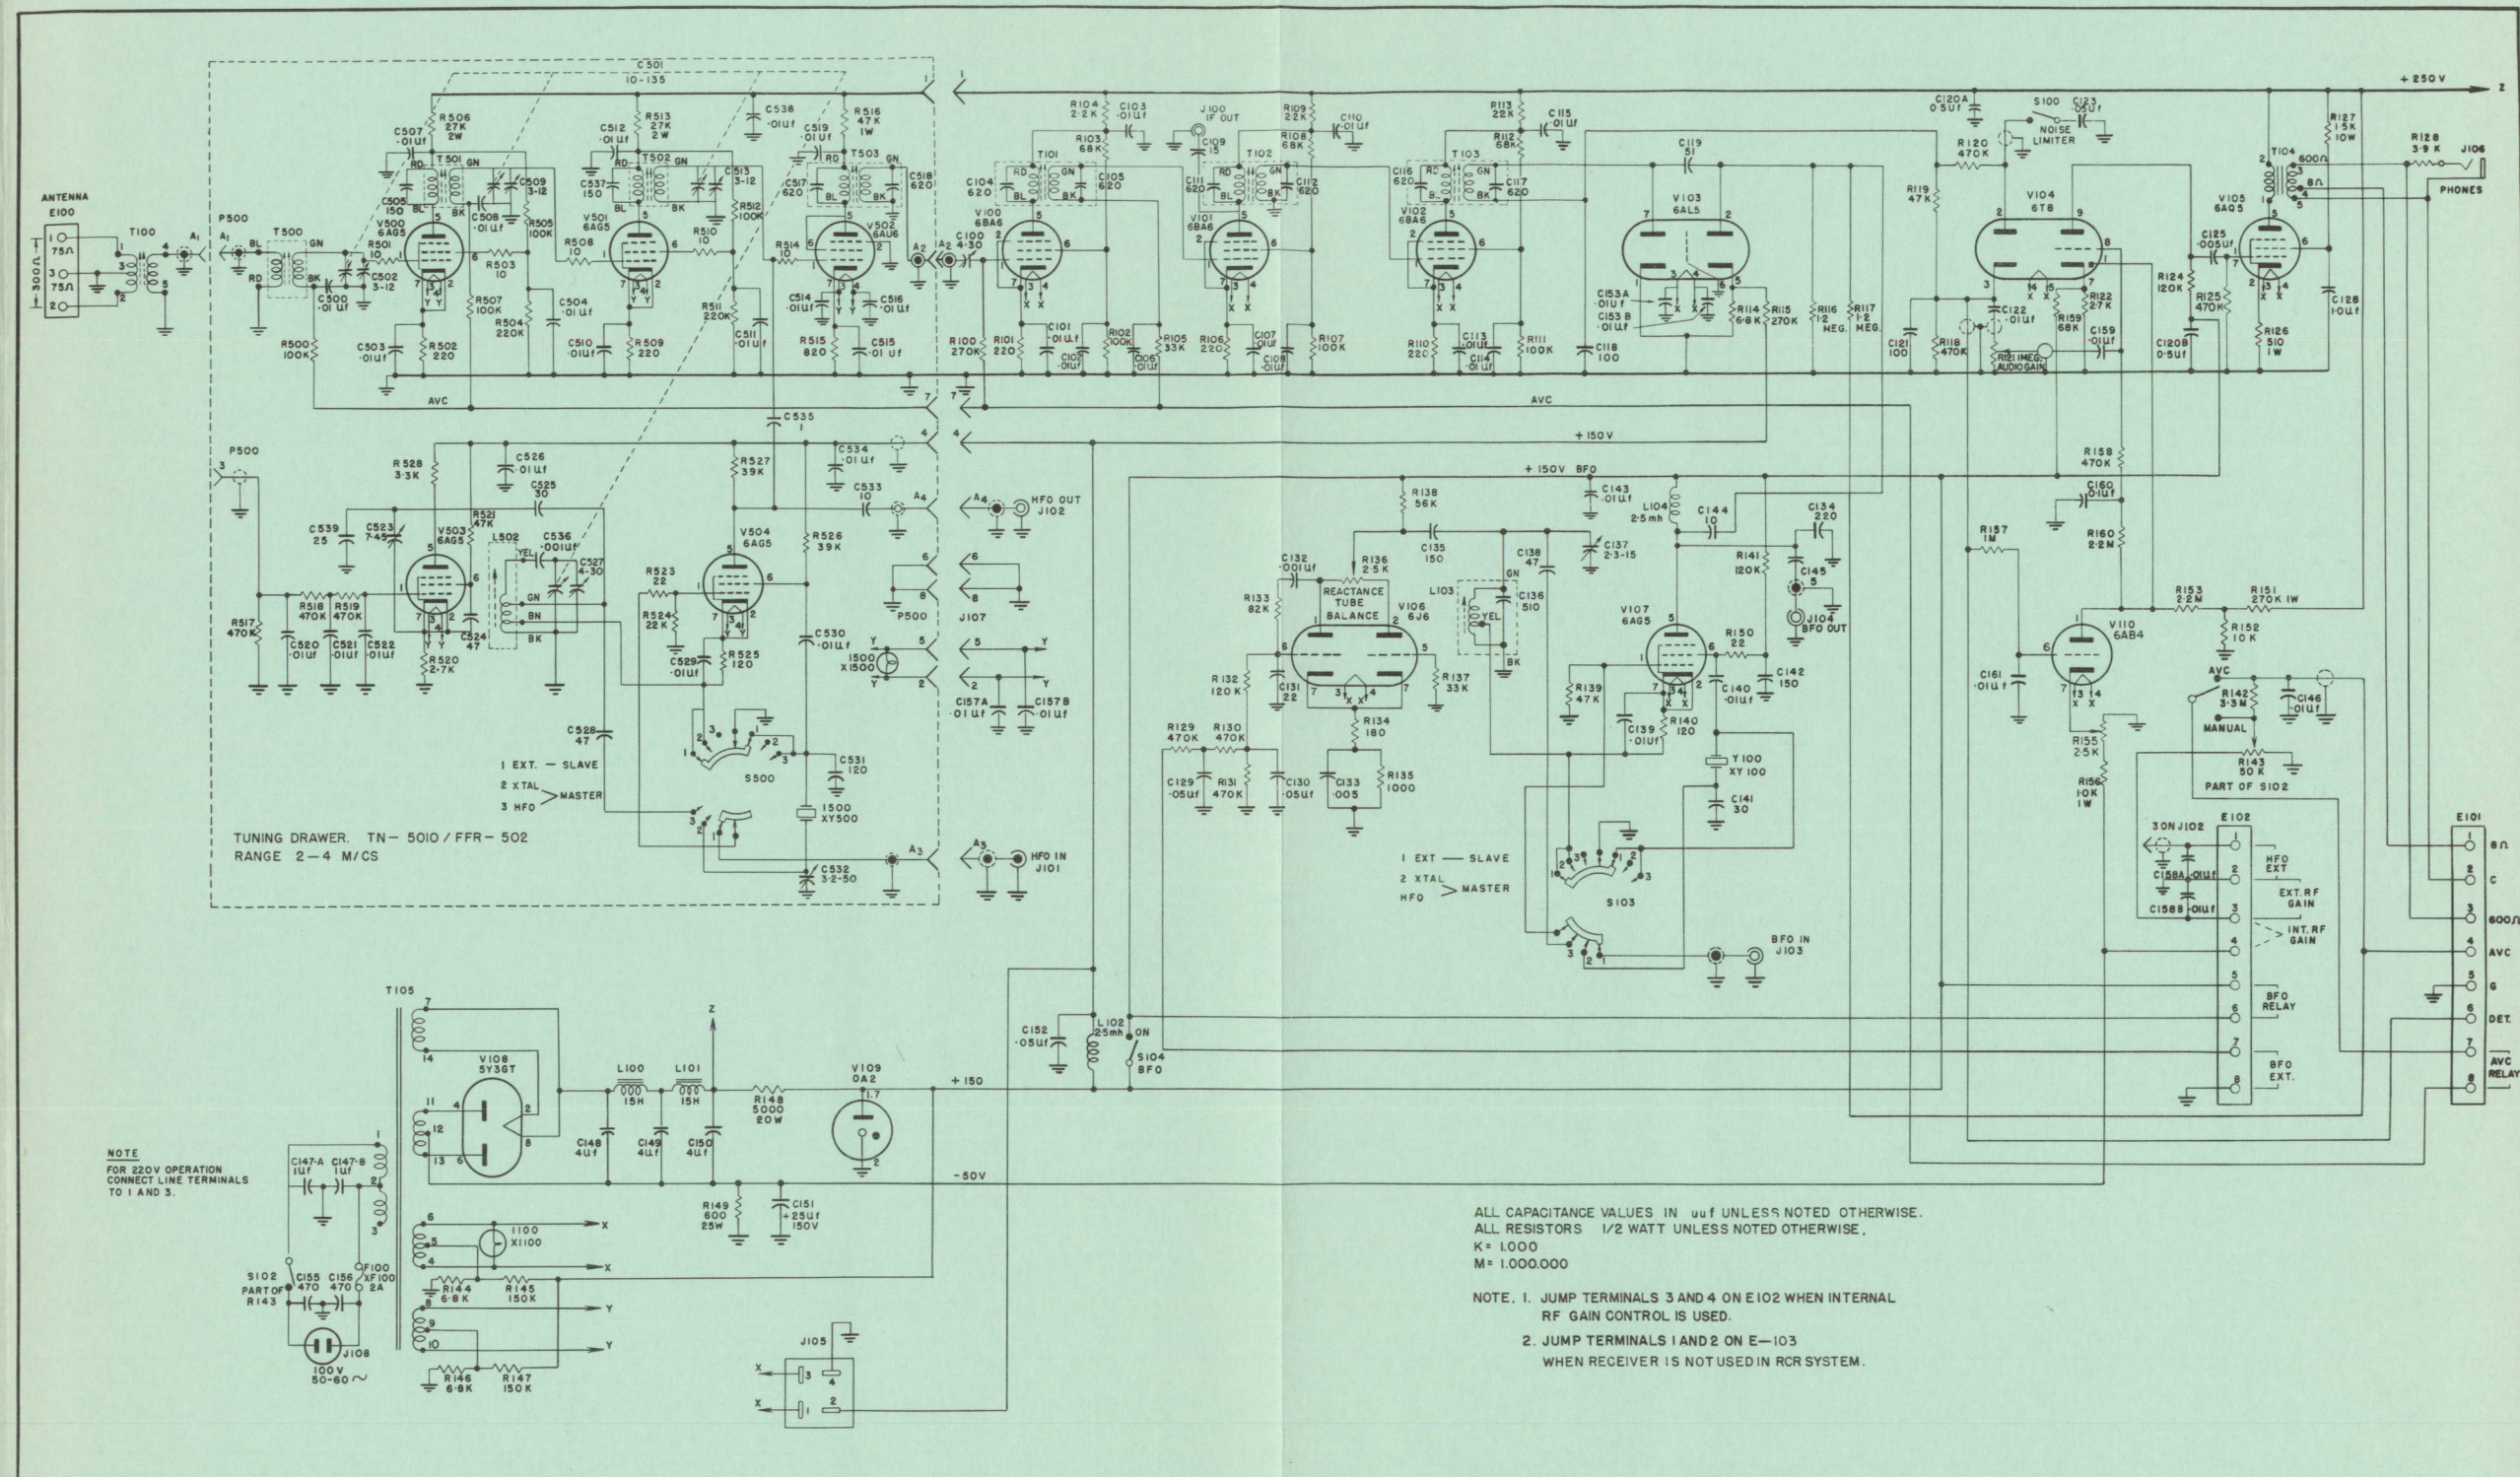

Figure 7 Schematic Diagram (with Squelch), R-5007/FRR-502 with TN-5010/FRR-502
- Figure 7 Schematic Diagram (with Squelch), R-5007/FRR-502 with TN-5010/FRR-502